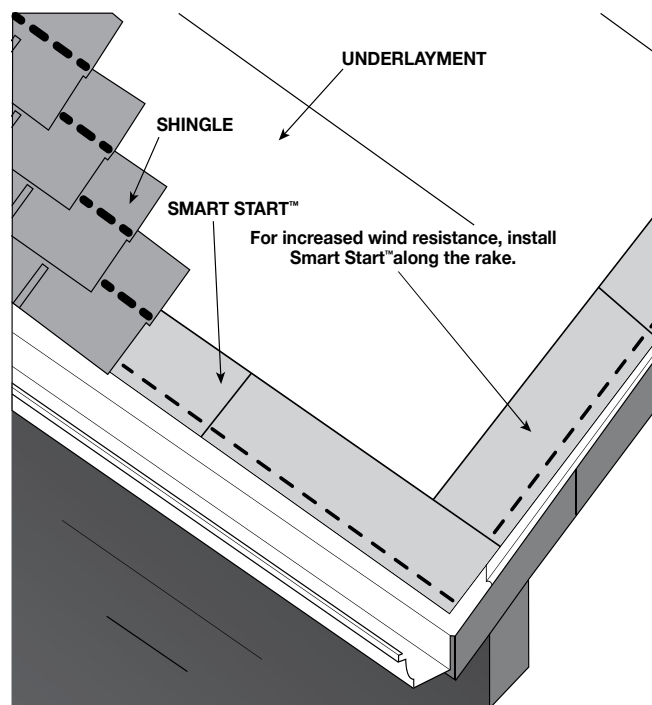

Figure 44 - Application of Smart Start® along the Eave and Rake Edges of Roof
Fasten with four (4) nails placed 1 1/2" - 3" (38 - 76 mm) back from the roof edge: one (1) nail 1" (25 mm) from each end and the other two (2) evenly spaced on the same line as the end fasteners. Do not place fasteners in the seal-down strip. No staples. (See Figure 44)